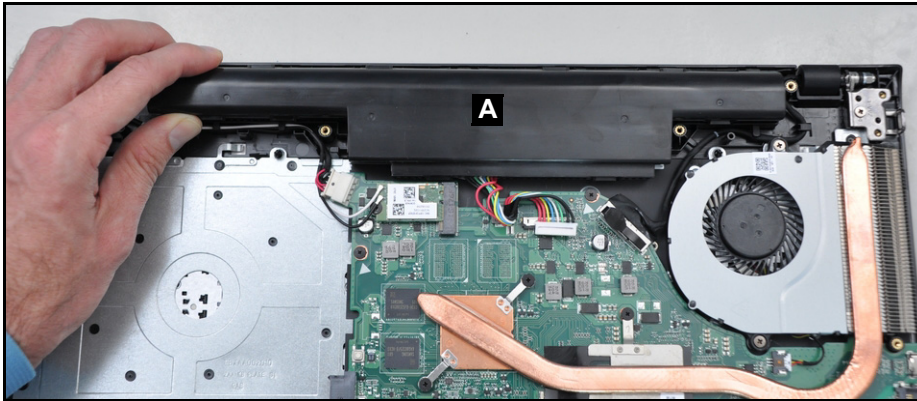

Figure 3-105. Replacing the Battery Pack
1. Place the battery pack (A) to its compartment on the system (Figure 3-105).